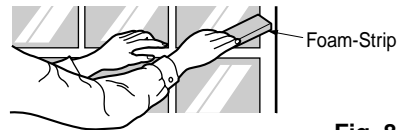

Fig. 8
- 8 Cut the Foam-strip to the proper length and insert between the upper window sash and the lower window sash. (See Fig. 8)